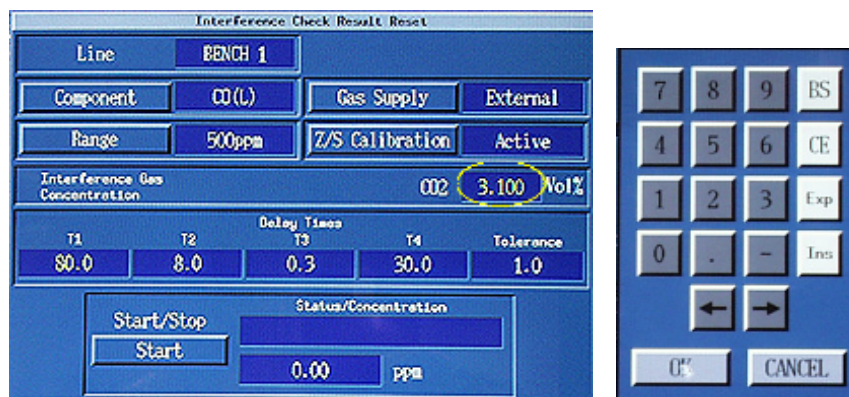

Figure 13
- 111 Click in the yellow user changeable field for “CO₂.” Use the on-screen keypad to enter “CE” and to enter the value noted in Step 102. See Figure 13. On the keypad, click on “OK.”